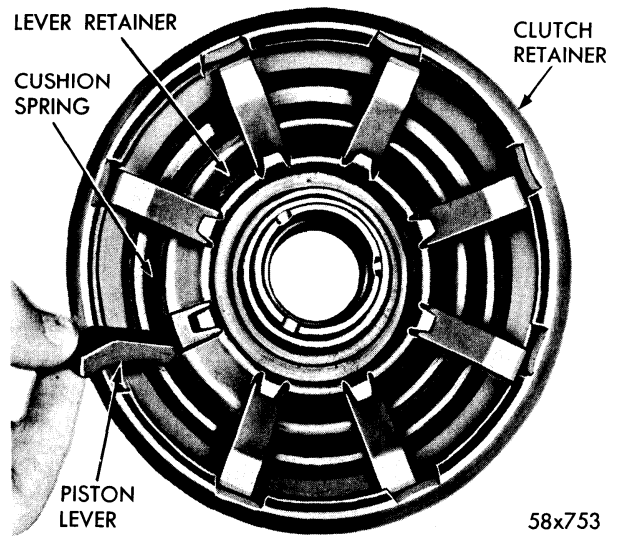

Figure 3—Installing clutch levers
Place lever retainer (K), Figure 1, on piston hub and install levers. See Figure 3. Position return spring (J), retainer (I) and snap ring (H) on retainer hub. Use Tool C-3533 to compress spring sufficiently to seat snap ring in groove with pliers C-3301. Remove compressor.
The height control valve actuator arm is connected to the rear axle assembly by rubber linkage, Figure 3.